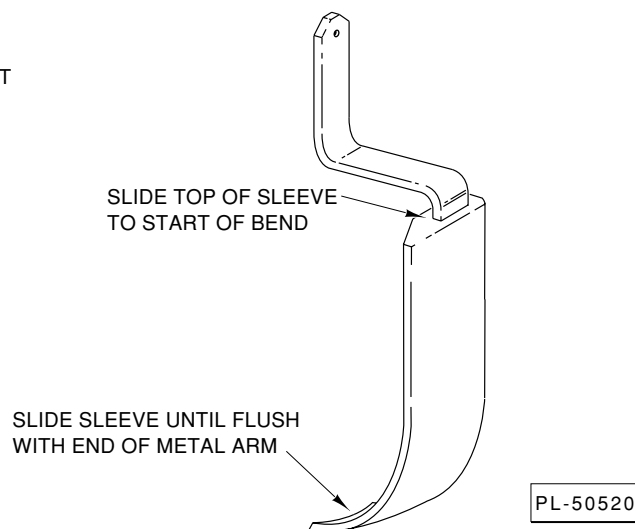

Fig. 11
2. If necessary, tap the end of the urethane scraper on a flat surface to push scraper firmly onto the arm (Fig. 10). Make sure sleeve is positioned on arm as shown in Fig. 11.
Slide sleeve onto arm so bevel is the leading edge; use a little water as a lubricant. Refer to Fig. 11 for proper sleeve position. Be sure top of arm is clean before reassembly into scraper mounting bracket.